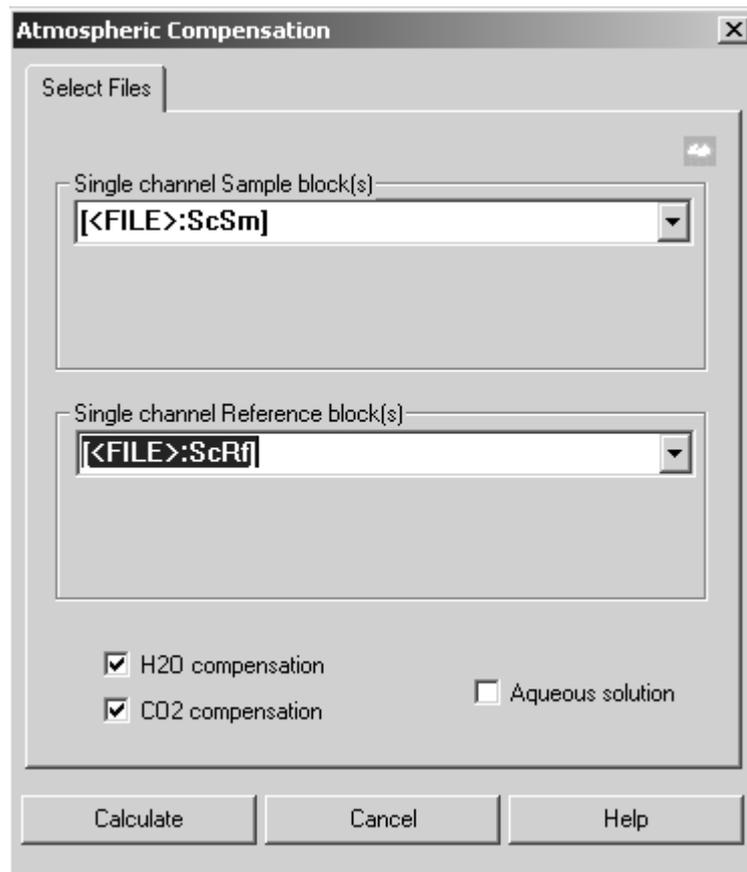

Figure 161: Atmospheric Compensation - Select Files
- The spectrum should not end at a wave number which shows strong absorption of atmospheric gases. To get a similar H₂O compensation (see figure 161), the lower wave number limit **must not** be around 1700cm⁻¹.